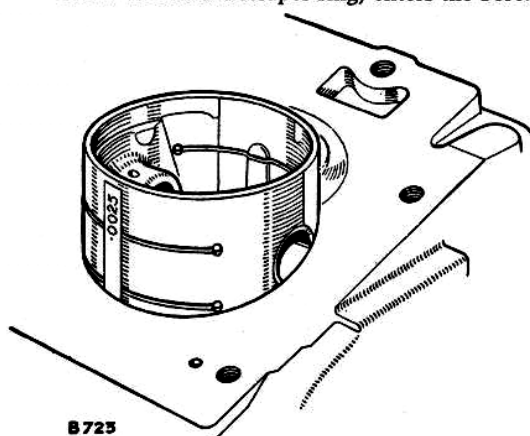

Fig. A-12—Checking piston clearance
1. When fitting pistons, standard or oversize, the cylinder bore clearance should be in accordance with the dimensions laid down in the data section. When reboring, the block must be honed to suit the selected pistons. In the absence of suitably accurate measuring instruments, a long feeler .0025 in. (0,06 mm) thick may be inserted against the thrust side of the bore as illustrated in Fig. A-12 and the piston located crown downward. The piston should become a tight fit when the top of the skirt (immediately below the bottom scraper ring) enters the bore.